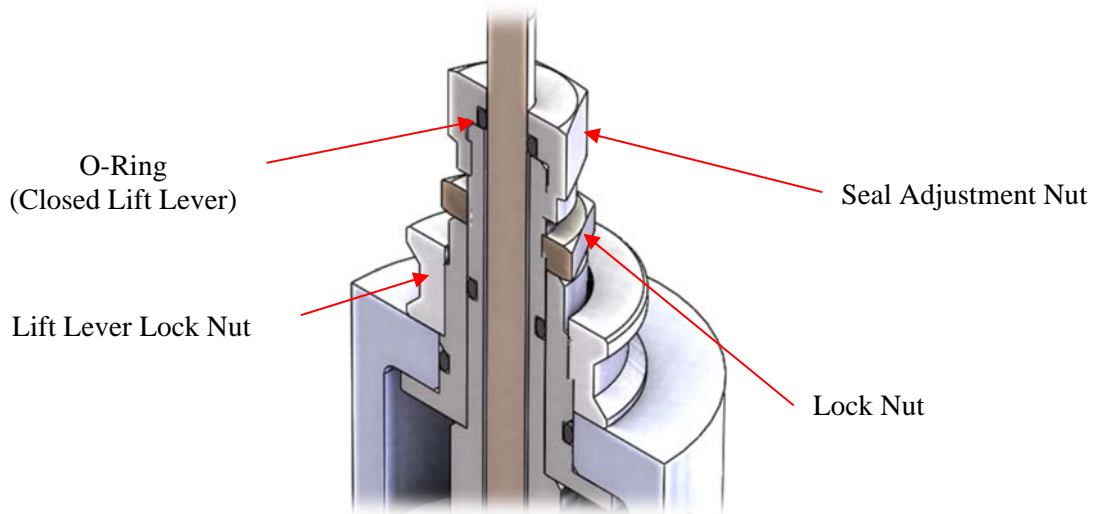

Figure 35: Removed Lift Lever Cap
6. Unscrew and remove the seal adjustment nut. See Figure 35.